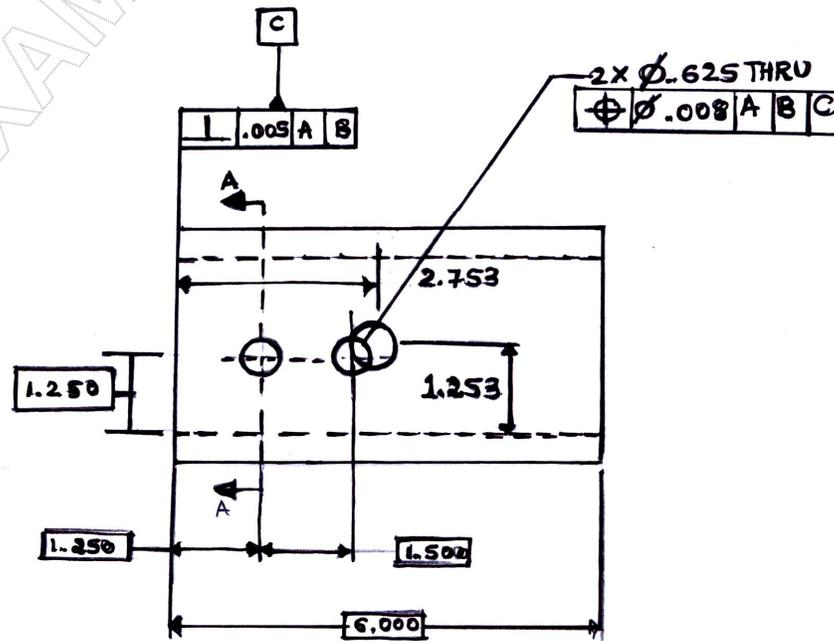

Fig.Q.3(b)
- Investigate whether the hole feature shown in Fig.Q.3(b) satisfies the applied position tolerance of 0.008. (11 Marks)